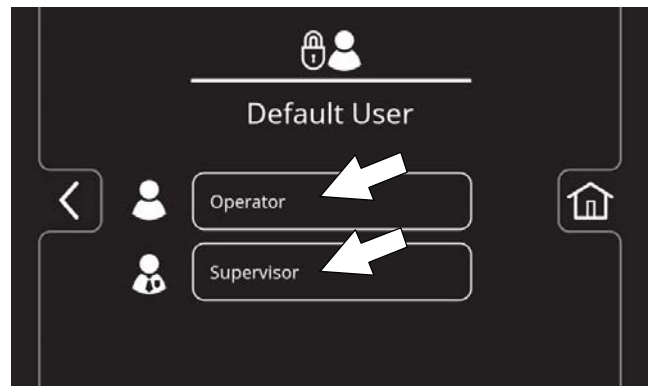

FIG. 180
6. Press either the Operator button or Supervisor button to select desired user profile as your home screen default without login (Figure 180).